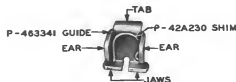

Fig. 10 - Position of Shim When Inserted in Guide
3.25 Hold the ears of the guide between the thumb and middle finger with the tab of the guide at the top and toward the hand. With the other hand, hold the hooked leg of P-42A230 shim between the thumb and middle finger with the closed portion at the top. Insert the long leg of the shim so that it is positioned in the corner formed by one of the ears and the back portion of the guide. The end of the long leg should rest on one of the jaws. Position the hooked portion of the other leg so that it rests on the rounded edge of the other ear. **Do not attempt to push the hooked portion over the rounded edge of the ear at this time.** With the index finger of the hand holding the guide, hold the shim in this position to prevent it snapping out of the guide. With the 3-inch C screwdriver, push the hooked portion of the leg over the rounded edge of the ear until this leg is against the back portion of the guide. Check that both legs of the shim rest on the back portion of the guide and the shim is in position as shown in Fig. 10.